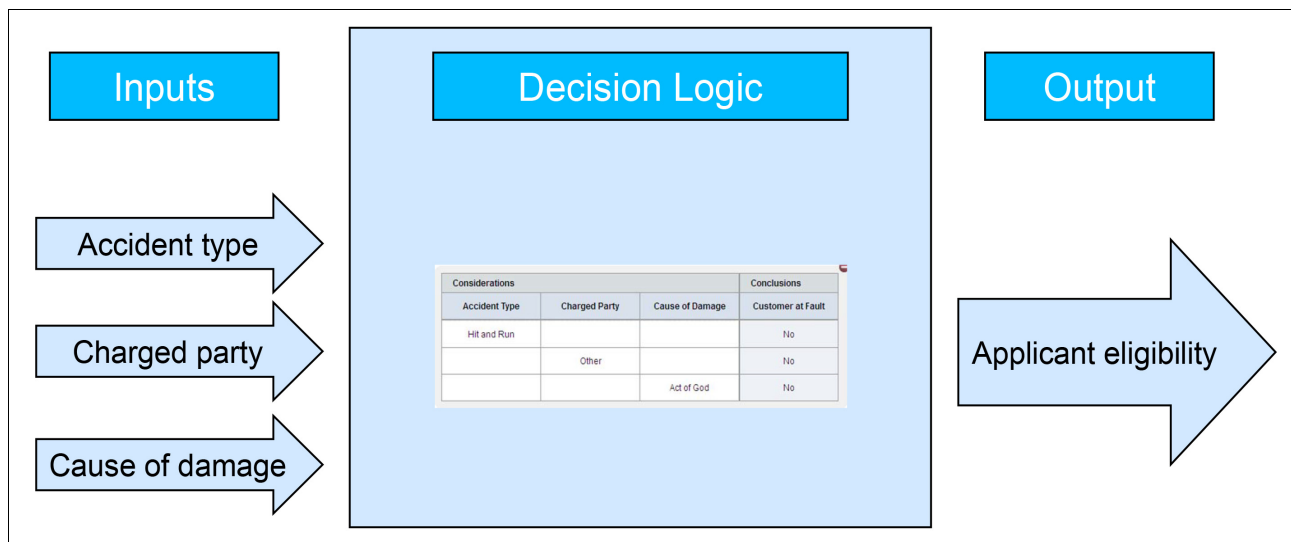

Figure 1-2 Structure of a simple decision
- ▶ The *decision logic*: Describes how the conclusion is reached, based on these facts. Decision logic is usually expressed using decision tables, business rules, analytic models, or other such formalisms as shown in Figure 1-2.